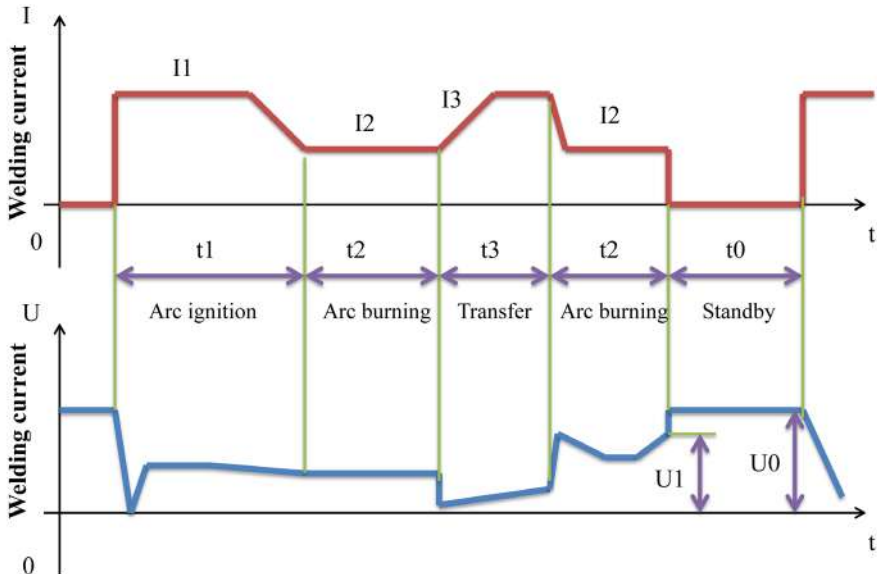

Figure 15: Changing of current and voltage during welding
To choose welding with the MMA electrode by pressing button (12), the diode (11, see Fig. 4) lights up. The MMA method regulates 4 parameters, whose values can be set on the panel and 1 parameter, the value of which is regulated only by the software. The description is below (see Figure 15):